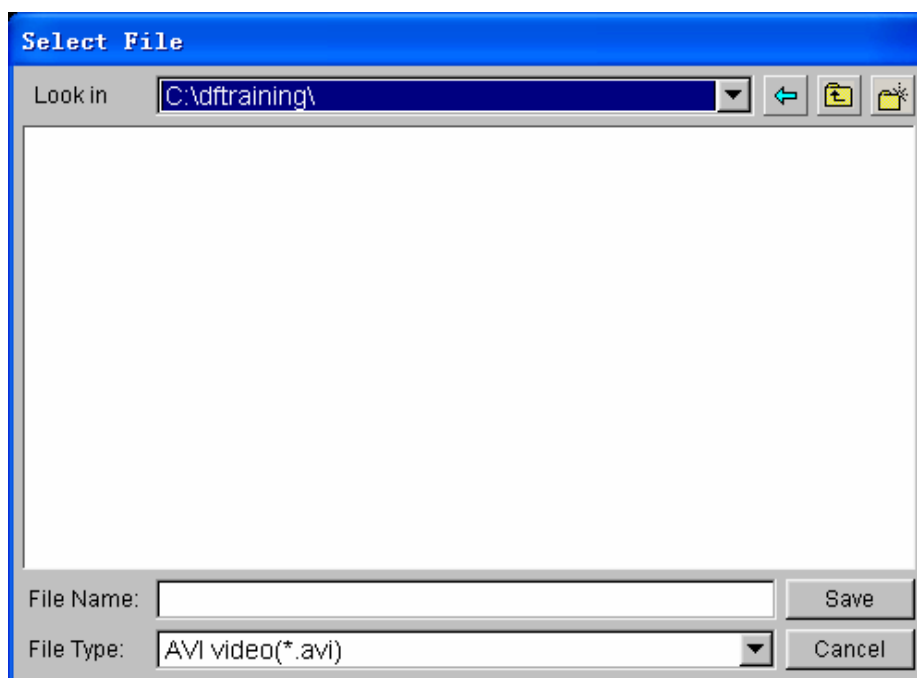

Figure 2.55 Save AVI file
5. Enter a name of the **AVI** move file (e.g. traincase.avi) at the input data field of File Name illustrated in Figure 2.55